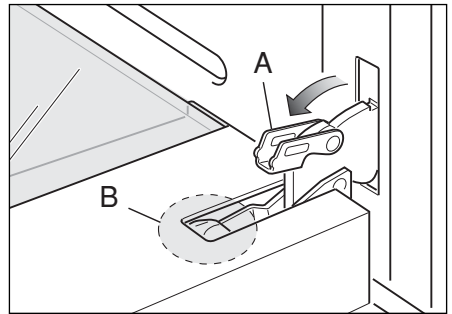
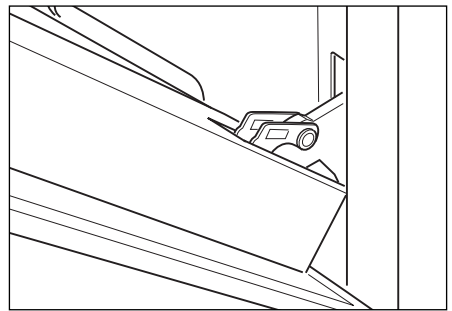

Fig. 23b
Fig. 23c
- Fully open the oven door (Fig. 23b).
- Fully open the lever "A" on the left and right hinges, (Fig. 23b).
- Gently close the door (Fig. 23c) until the left and right hinges are hooked to part "B" of the door (Fig. 23b).